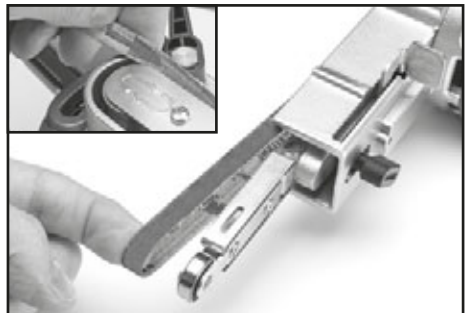

FIG.3
- Refit the required belt over the rear and front rollers. (Fig.3)